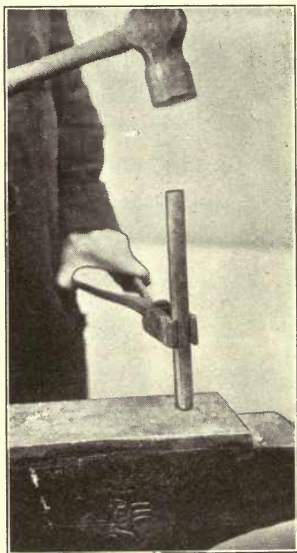

FIG. 12. SQUARING AN END,
2. Heat to a cherry red, no hotter, and square both ends as shown in Fig. 12. Use a link tongs. In all blacksmithing always square the ends of your stock first.